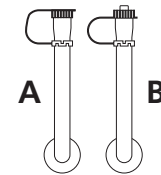

Fig. 3
3. Check that the oral-inflation tube cap is in stowed position B (Fig.3).